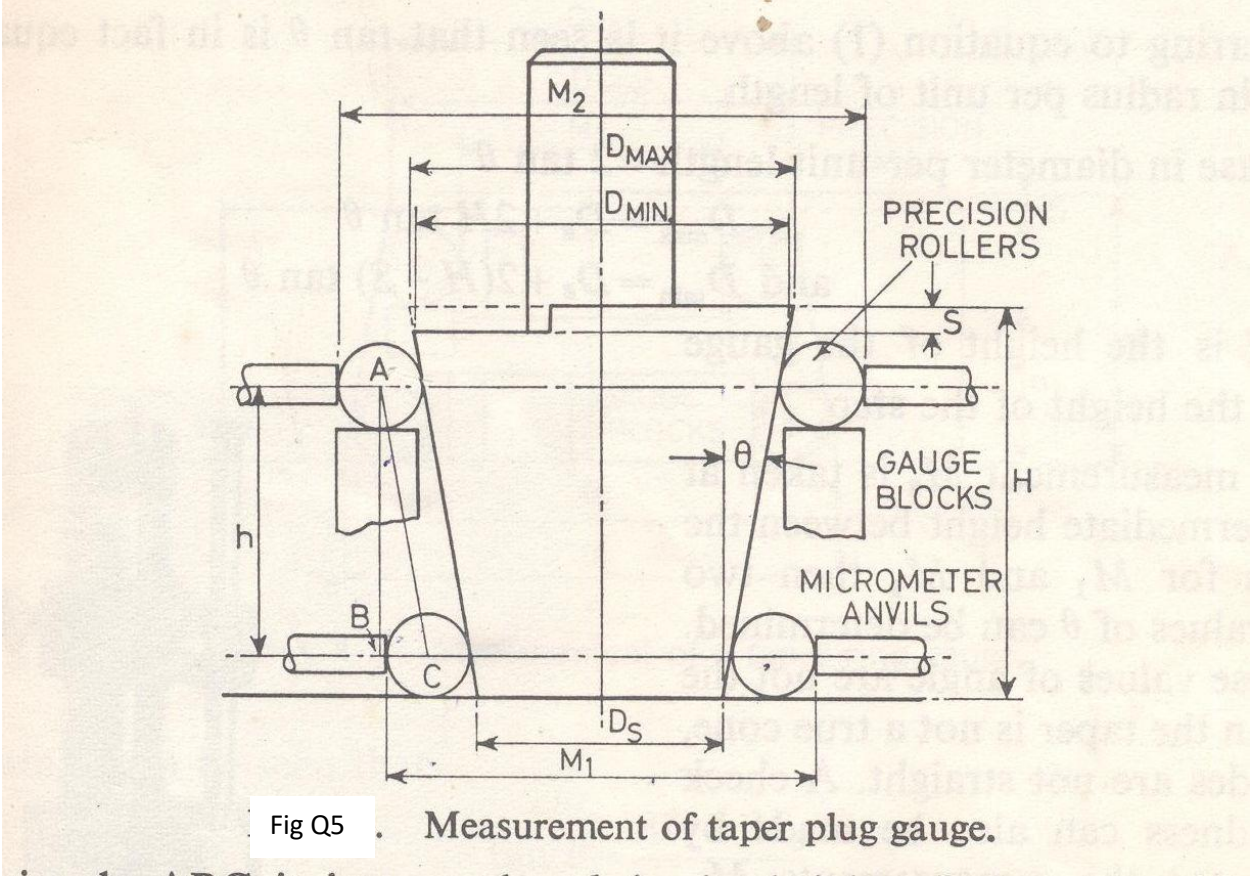

Fig Q5
- a) (i) Derive from first principles the  $D_{\max}$  and  $D_{\min}$  expressions for the taper plug gauge shown (Fig Q5)